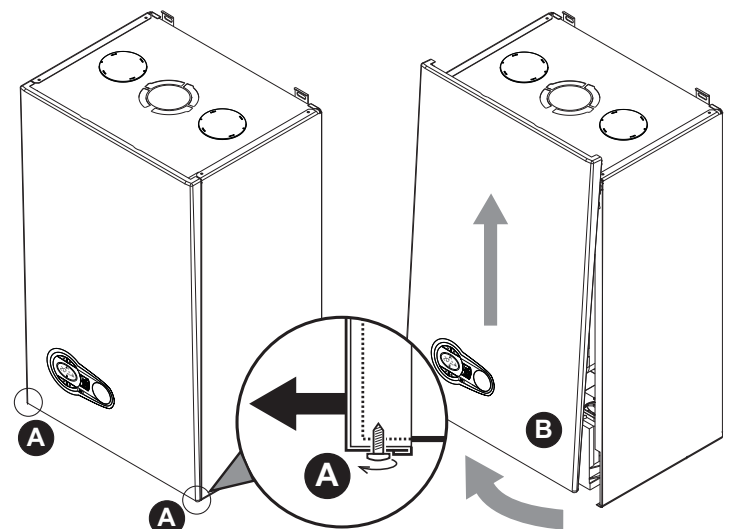

fig. 24 - Front panel opening
1. Partially undo the screws A (see fig. 24).